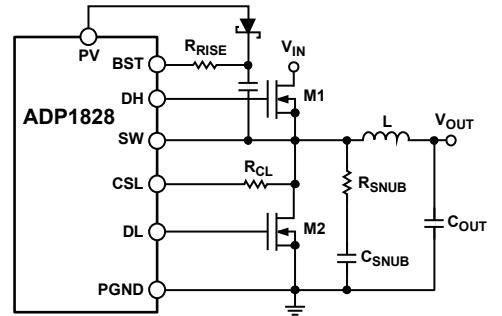

Figure 40. Application Circuit with a Snubber
In any high speed step-down regulator, high frequency noise (generally in the range of 50 MHz to 100 MHz) and voltage overshoot are always present at the gate, the switch node (SW), and the drains of the external MOSFETs. The high frequency noise and overshoot are caused by the parasitic capacitance,  $C_{gd}$ , of the external MOSFET and the parasitic inductance of the gate trace and the packages of the MOSFETs. When the high current is switched, electromagnetic interference (EMI) is generated, which can affect the operation of the surrounding circuits. To reduce voltage ringing at the drain of the MOSFET, an RC snubber can be added between SW and PGND, as illustrated in Figure 40. In most applications,  $R_{SNUB}$  is about 2  $\Omega$ , and  $C_{SNUB}$  about 1.2 nF.  $R_{SNUB}$  and  $C_{SNUB}$  can be calculated using the following equations:
In most applications, a size 0805 component is sufficient. The use of the RC snubber reduces the overall efficiency, generally by an amount in the range of 0.1% to 0.5%. However, the RC snubber cannot reduce the voltage overshoot. A resistor, shown as  $R_{RISE}$  in Figure 40, at the BST pin could help to reduce overshoot and is generally between 1  $\Omega$  and 5  $\Omega$ .